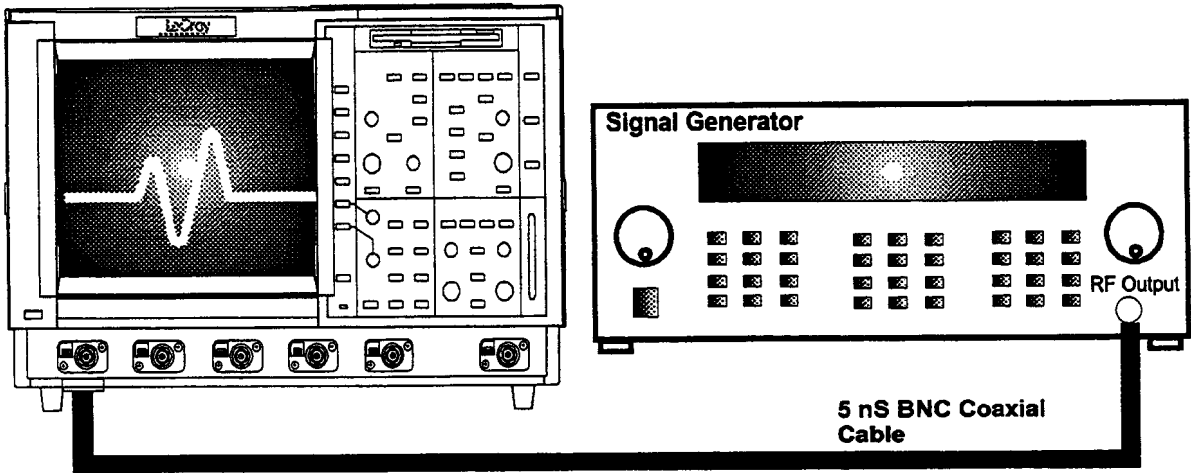

Figure 5-9 : 50Ω Bandwidth Equipment Setup
- Connect the test equipment as shown in Figure 5-9.